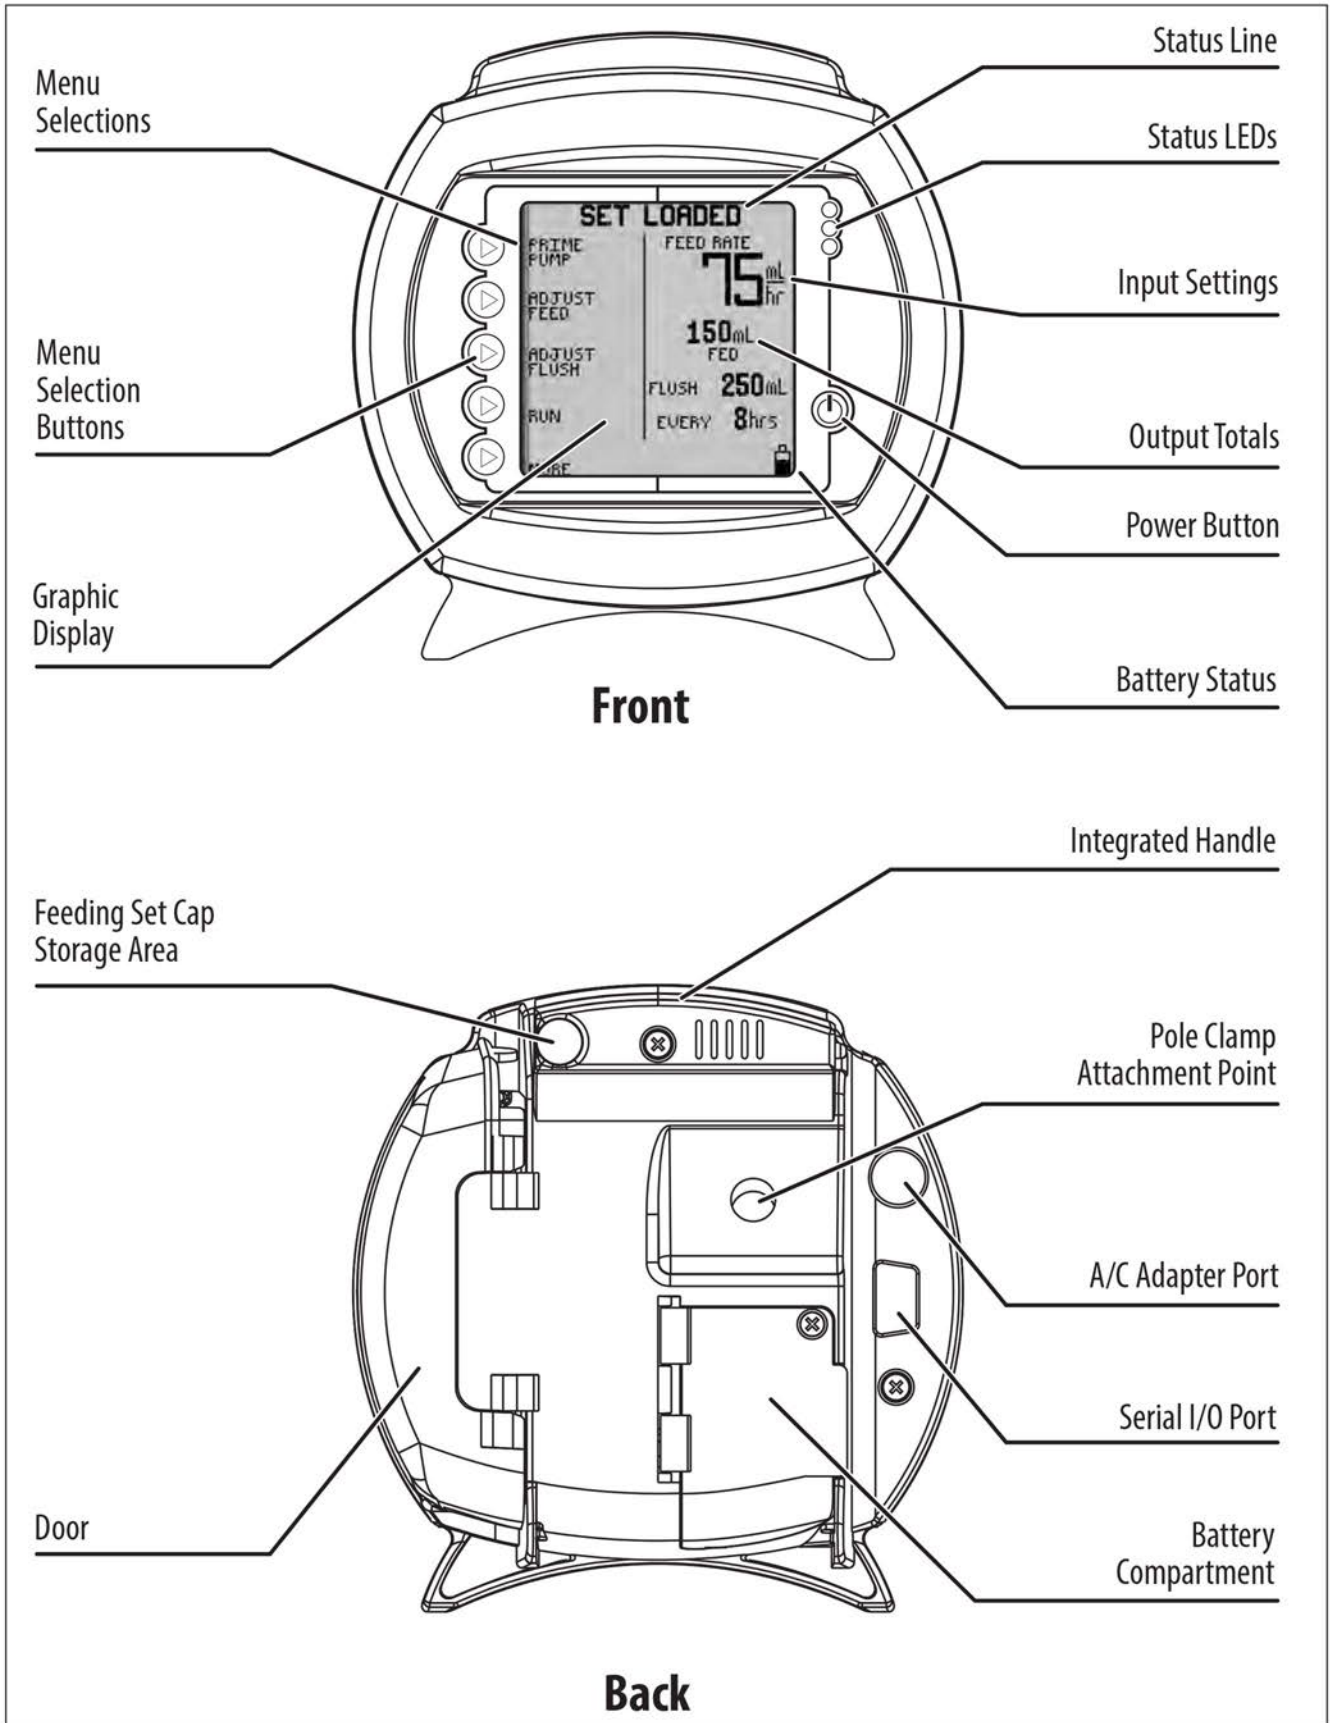

Figure 1A. Kangaroo™ ePump™ features, front and rear views.
13. **Warning:** The serial I/O port (see Figure 1A) is intended only for use with the approved communication cable (Part Number 382499).
Plug the A/C Power Adapter (Part Number 382491) into the A/C adapter port on the back of the pump. See Figure 1A to locate port on pump. Make note of the location of the pins and tab on the plug to properly orient the plug.